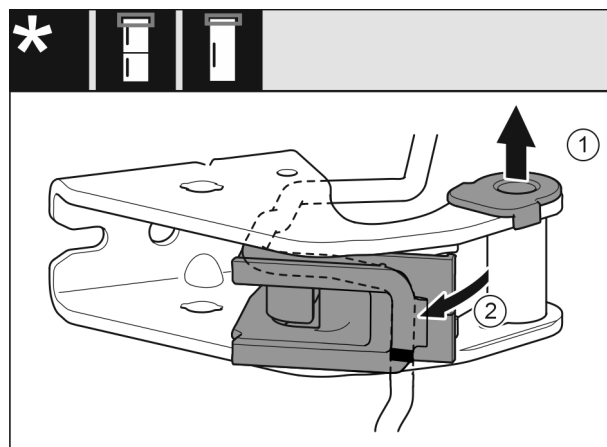

Fig. 26
- Pull out the bearing bushing Fig. 26 (1) from the guide.
- Swing out the cable bracket Fig. 26 (2).